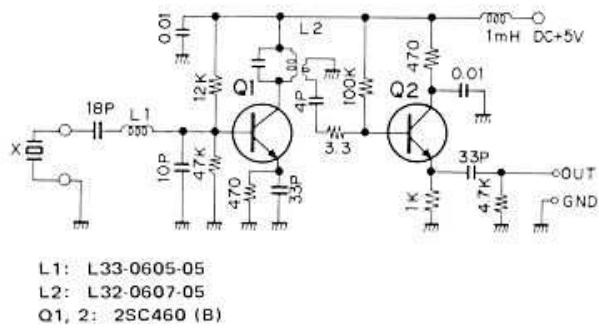

Fig. 9 OSC Circuit
5. Oscillator circuit and output (Fig. 9)